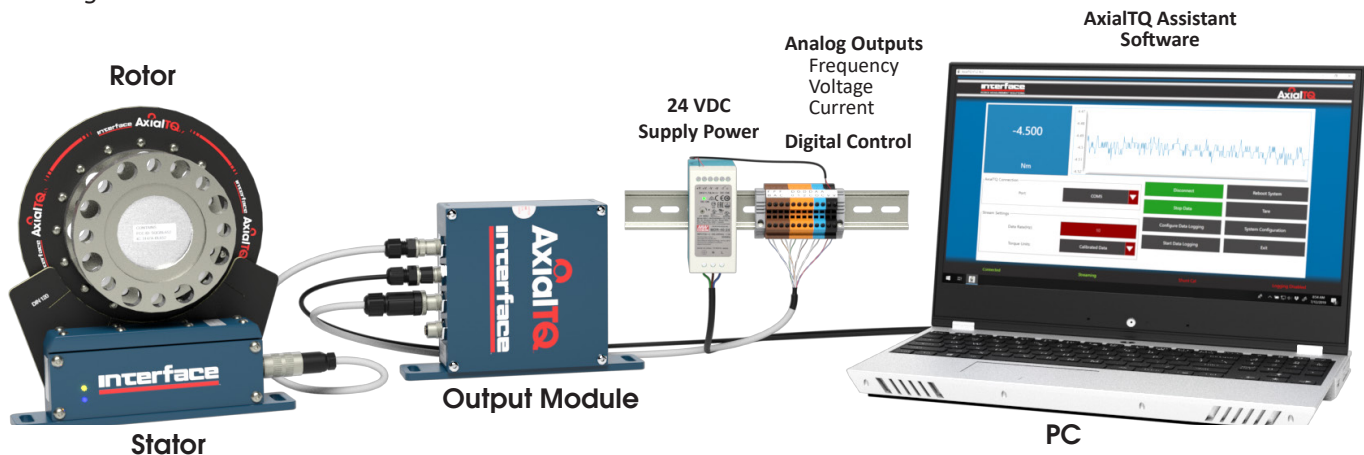

Figure 1
3.1 The AxialTQ torque flange measures static and dynamic torques on stationary and rotating shafts. Test beds can be extremely compact because of the compact design of the transducer. This offers a very wide range of applications. See Figure 1.